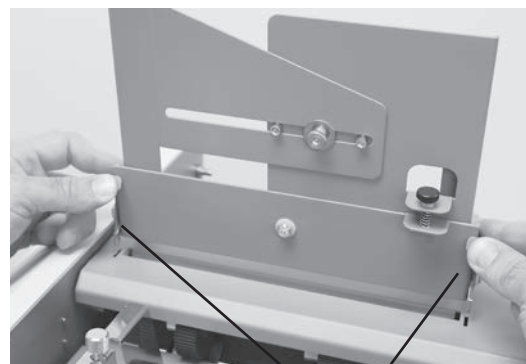

Fig. 47d
5. To remove the multi-sheet feeder, depress the release levers located on either side of the lower back side of the feeder (Fig. 47d), tilt the feeder forward and lift. To reinstall depress the levers and reinsert.